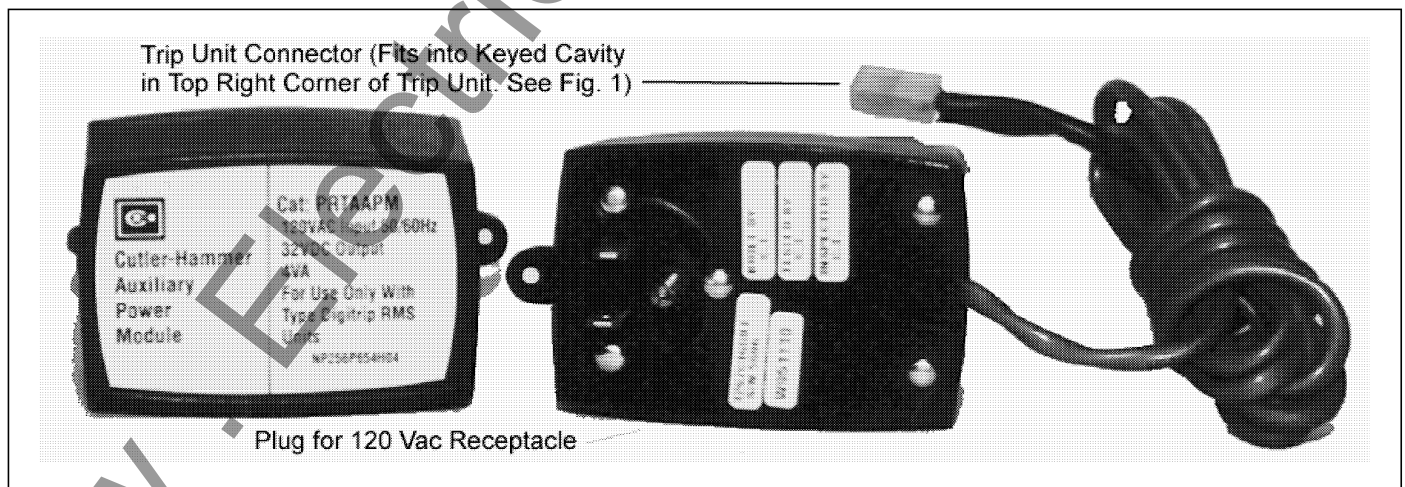

Fig. 7 Auxiliary Power Module
Since the Digitrip RMS 510 Trip Unit is completely self-powered using energy derived from the current sensors installed in the circuit breaker, all in-service tests conducted should be conducted with the auxiliary control power module, shown in Fig. 7, plugged into the trip unit. This action will avoid difficulties caused by load current levels that are too low to operate the trip unit.
- 1) **Before starting any test sequence**, check the Unit Status (Green LED) in the lower right corner of the trip unit (See Figs. 1 and 5) to be sure it is blinking on and off about once each second, which indicates that the trip unit is functioning normally. In the event the Unit Status LED is not blinking, install an Auxiliary Power Module (APM) (See Fig. 7), or if you have one already, check to see that it is connected correctly.
- a) *the current is not less than 10% of the breaker frame (or current sensor) rating; be sure the “GREEN” Unit Status LED (in the lower right corner of the trip unit (See Figs. 1 and 5) is blinking on and off (indicating that there is enough current flowing to provide the power necessary to operate the trip unit). In the event the Unit Status LED is either lighted “GREEN” or “OFF” continuously, there is NOT enough current flowing to power the trip unit; and an APM (See Fig. 7) should be installed before proceeding with the test.*
- 3) **When performing tests on the Long Delay element**, be aware that in addition to the standard protection element, the Digitrip RMS 510 Trip Unit also has a Long Time Memory function (LTM), which serves to protect load circuits from the effects of repeated overload conditions. (See NOTE 1 under Section 4.3 Long Delay Time Setting.) The action of the LTM will have the same effect of advancing the Long Delay Trip Time if multiple Long Delay Time tests are performed repeatedly - as one might do in making single phase tests on each pole of a breaker in succession, for example. If you have sufficient experience in performing tests with this kind of accelerated trip timing, you may be comfortable with the results of tests performed in quick succession. However, if there is any question, you may simply wait about ten (10) minutes after a Long Delay Trip for the LTM to reset, before you check the next pole.
For testing the trip unit, an optional Auxiliary Power Module (Cat. No. PRTAAPM) as shown in Fig. 7 is recommended. This Auxiliary Power Module, which operates from a separate 120 Vac supply, may be used when a drawout circuit breaker is in any of its four cell positions, i.e., “Connected”, “Test”, “Disconnected” and “Withdrawn” (or “Removed.”)
**Note: For Testing Purposes Only: When using an external single phase current source to test low level ground fault current settings, it is advisable to use the Auxiliary Power Module (APM) (See Fig. 7). Especially when the single phase current is low, without**
The Auxiliary Power Module or APM (Cat No. PRTAAPM), illustrated in Fig. 7, is an encapsulated power supply that requires a 120 Vac input at either 50 or 60 Hz. It provides an output of 32 Vdc (nominal 40 Vdc open circuit) which can be used for testing a Digitrip RMS 510 Trip Unit.